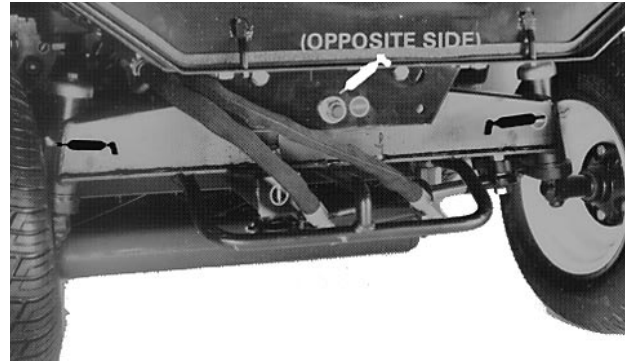

Figure 25
Two-wheel drive machines—cylinder end (2), tie rod assembly (2) (Fig. 24); center pivot (1), spindles (2) (Fig. 25).